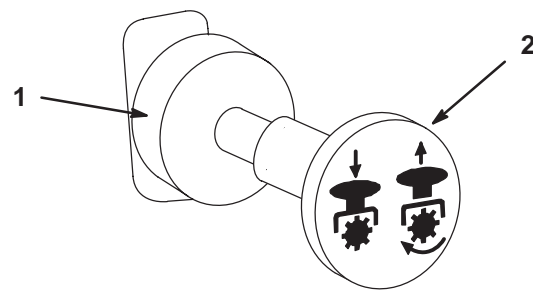

Figure 14
3. Pull out on the power take off (PTO) switch to engage (Fig. 14).
1. To disengage, push the PTO switch to the off position (Fig. 14).